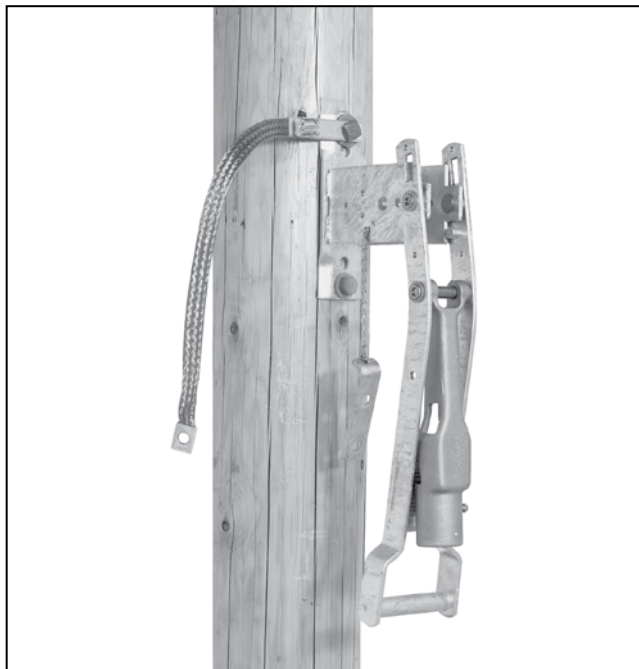

Figure 22. Mounting the operating handle.
STEP 20. Mount the operating handle assembly as shown on the erection drawing. At the same time, use one of the mounting bolts to attach one end of the ground strap (the end with the grounding connector attached) to the handle mounting plate.■ See Figure 22.